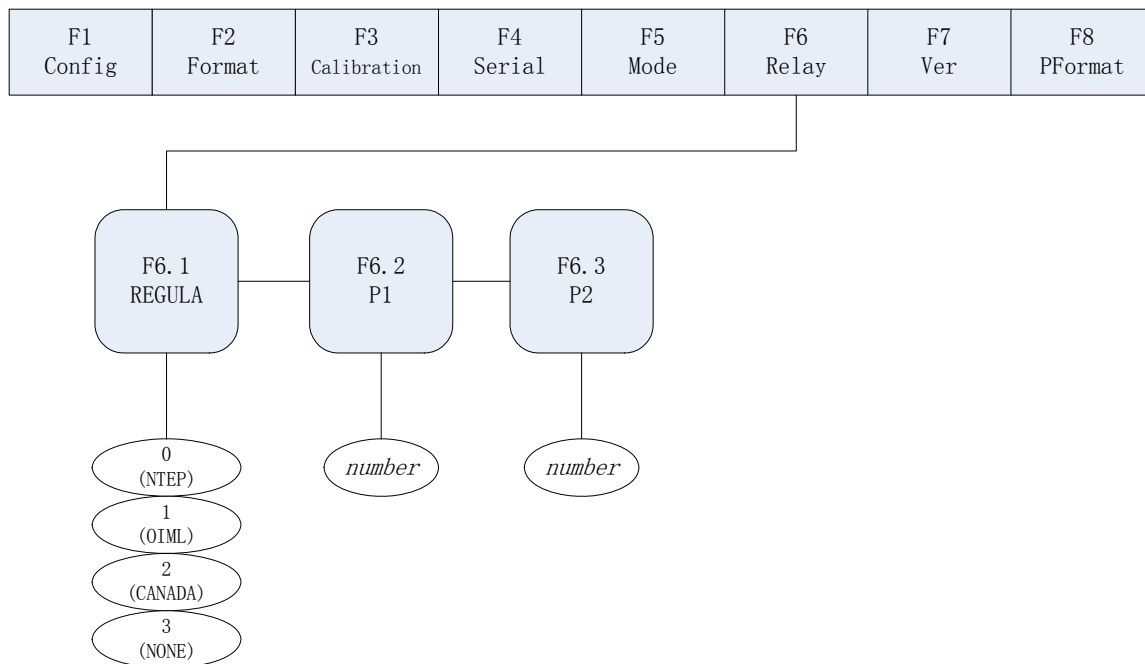

Fig. 6-1 Relay Output Menu
- (1) Set indicator to Configuration mode (display shows "F1").
- (2) Press  until display shows "F6" (see Fig. 6-1). Press  to go to the Relay Output Menu. Display shows "F6.1"
- (3) When displays shows "F6.1", press  to go to the F6.2 Menu and display shows "F6.2".